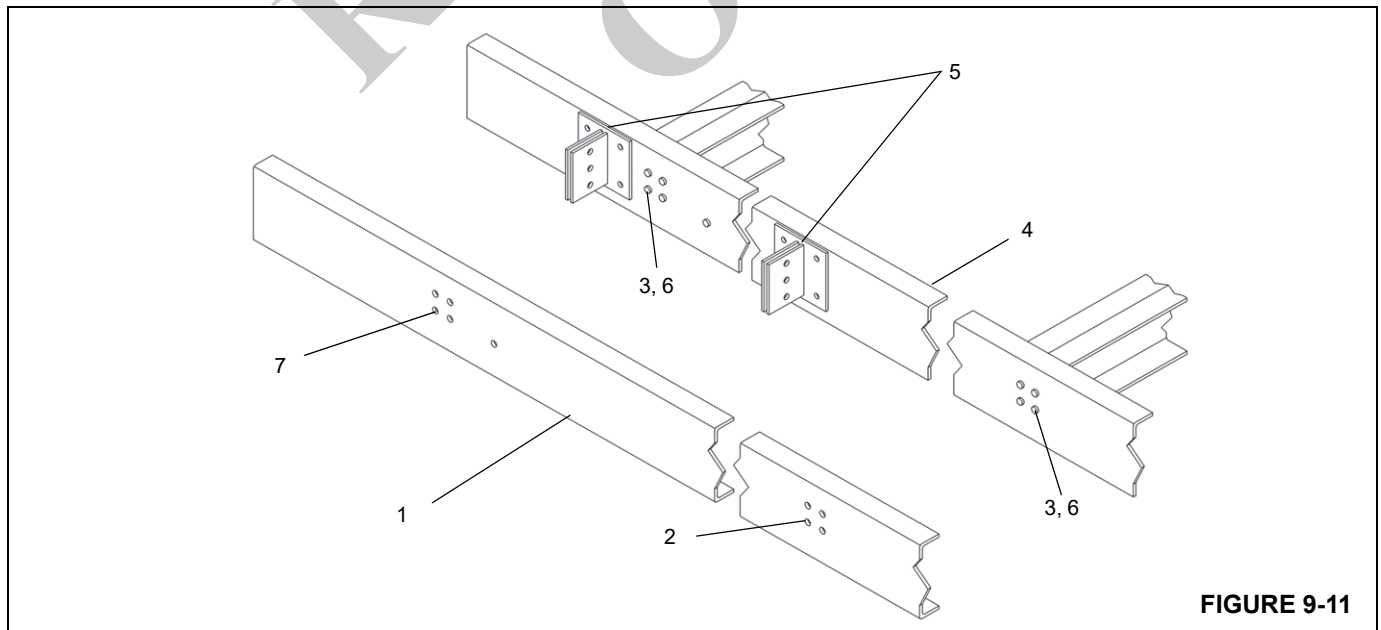

FIGURE 9-11
- If rivets are used to secure truck frame cross members. Place the reinforcing (1, Figure 9-11) on the truck frame (4) and clamp in place.
Remove the reinforcing (1) and cut clearance holes for the rivets (3) (Figure 9-11).
- If reinforcing (1, Figure 9-11) is to be welded to the truck frame (4), remove the crossmember bolts (6).
- If bolt-on reinforcing is required, clamp the reinforcing (1, Figure 9-11) in place and install crossmember bolts (6) that were previously removed.